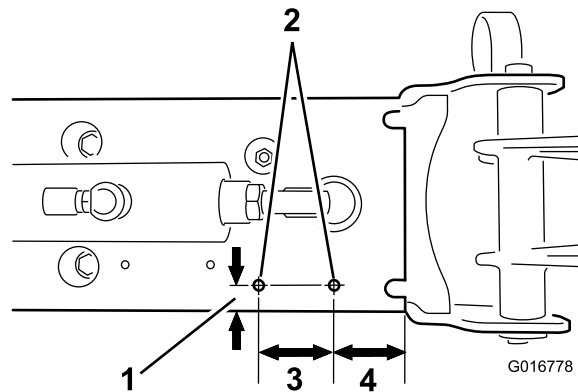

Figure 6
**Note:** If you have older booms without pre-drilled holes, you will need to drill 2 holes for each signal bracket as shown in Figure 6.